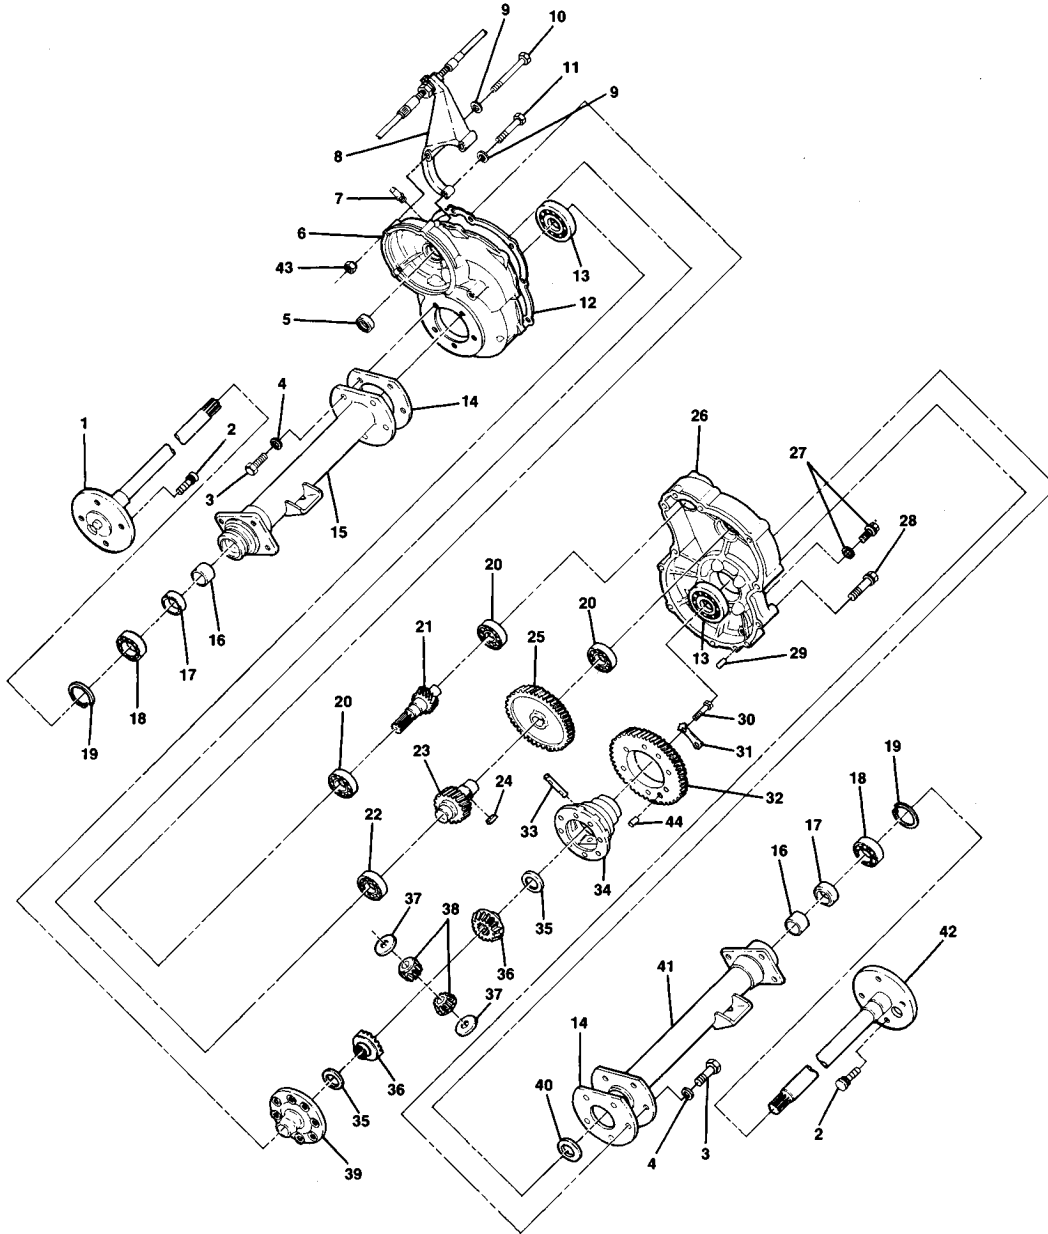

Figure 6-1 — Transaxle Assembly
1. Clean bearing and seal seat in axle tube (15 and 41) (Figure 6-1).